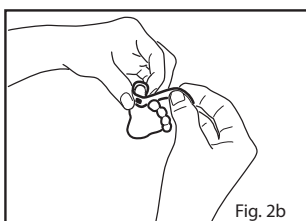

Fig. 2b
2. Refer to Fig. 2b. Wrap the adhesive wrap around the toe/thumb so the emitter is positioned on the back of the nail bed (not the tip of the nail). Complete coverage of the detector window is needed to ensure accurate data.